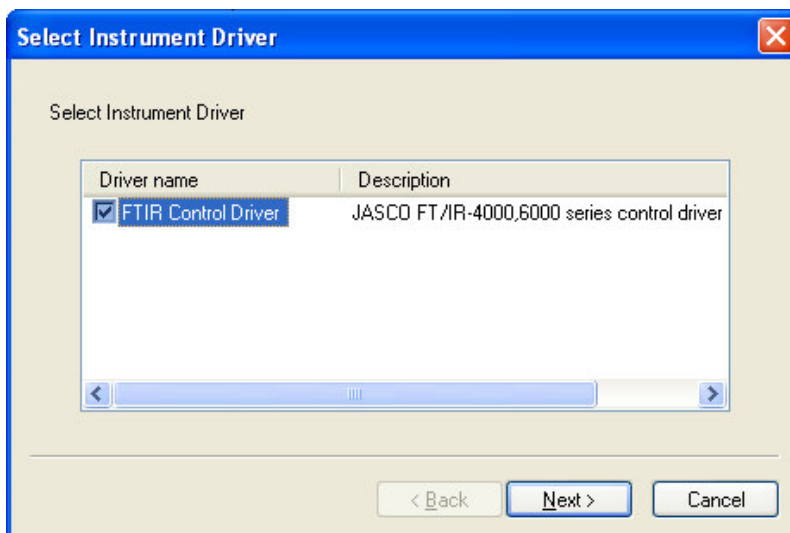

Fig.2.2 Select Instrument drivers
- (2) Select a driver name and click the <Next> button. (Fig. 2.2)